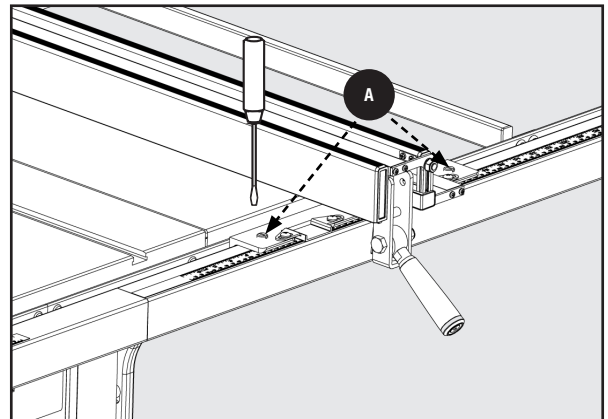

Figure 32
3. If the fence face is not perpendicular to the table, release the clamping lever and slightly adjust one of the slotted set screws **A**, Figure 32, until the fence face is perpendicular to the table.